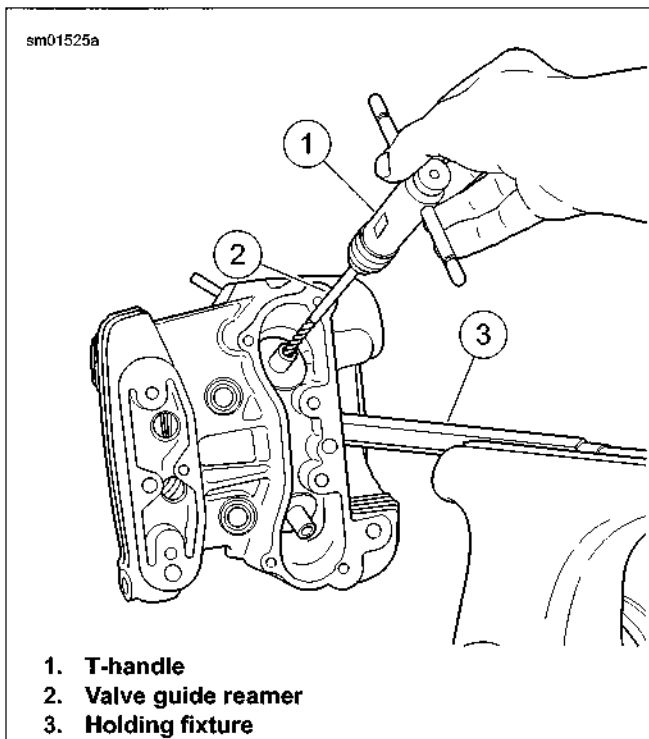

Figure 3-38. Reaming Valve Guide Bore
- a. See Figure 3-38. Thread 12 mm end of CYLINDER HEAD HOLDING FIXTURE (Part No. HD-39786) into cylinder head spark plug hole.